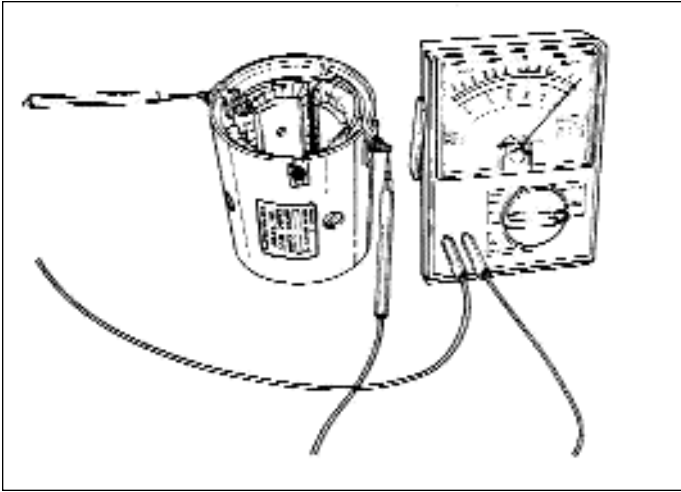

Figure 16 - Open Field Test
1. If removed, install field coil assembly (26) into frame (3) and secure using pole shoes (23) and pole screws (22). Tighten pole shoe screws to 9 ft.lbs. (1.2 kgm) torque. See Figure 16.